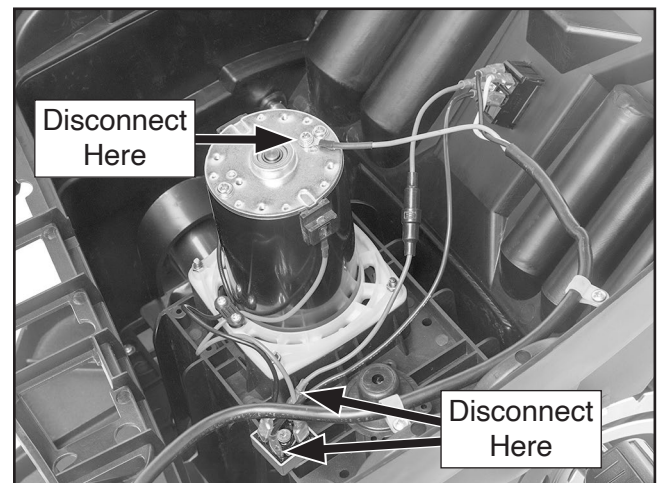

Figure 43. Wire connections to disconnect.
4. Disconnect (2) wires at bridge rectifier that also attach to ON/OFF switch (see **Figure 43**).
5. Remove screw shown in **Figure 43** to disconnect green ground wire from motor.